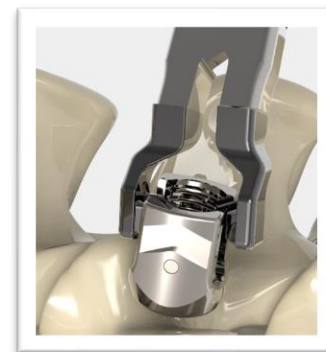

Figure 12
- Slide the Tulip over the modular screw and apply an axial force until an audible click is heard (Figure 12).